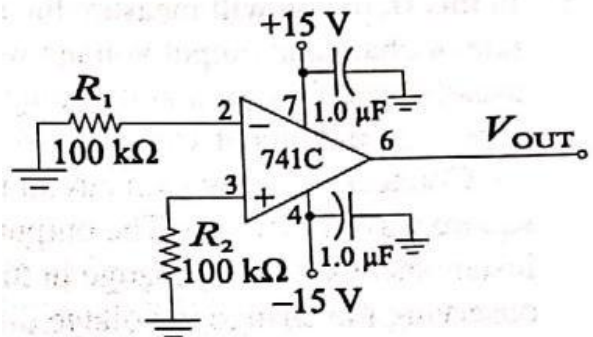

Figure 19-3
- (b) Connect the circuit shown in Figure 19-3.
- (c) Measure the voltage across R_1 and R_2 of Figure 19-3. Use Ohm's law to calculate the current in each resistor.